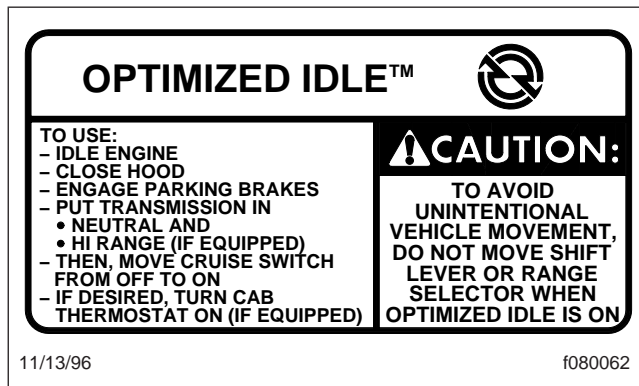
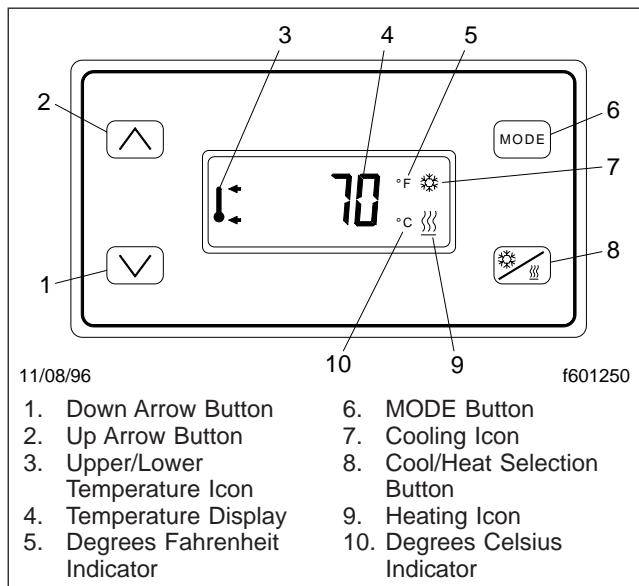

Fig. 2.34, Optimized Idle Dash Label
Fig. 2.35, Optimized Idle Thermostat
Vehicles equipped with Optimized Idle have a label on the dash, and a telltale (OPT IDLE) in the ICU. See Fig. 2.34 for the dash label detail. If equipped, a thermostat is located above the sleeper bunk. See Fig. 2.35.
- 2.2 Turn on the thermostat by touching any of the four buttons. See Fig. 2.35.